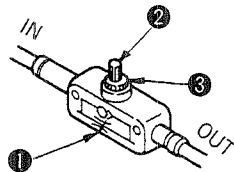

Fig. 4-4-4
- 5) The two needle knobs of the speed controller (A) for the air supply are fixed using nuts with loosened by 3 turns after they have been fully tightened. (Fig. 4-4-4)
- 5) Adjust needle knob ② of speed controller (A) ① properly. After the adjustment, fix it using nut ③. (Fig. 4-4-4)